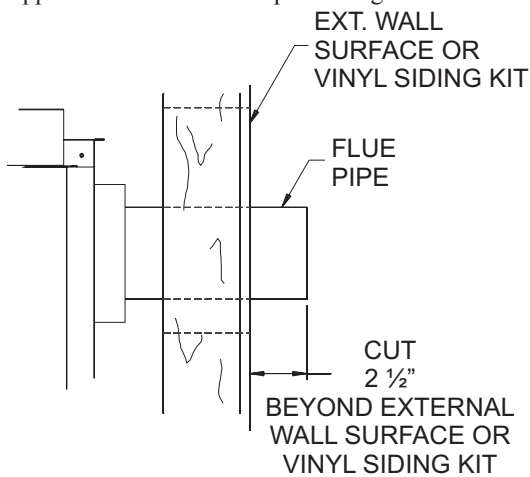
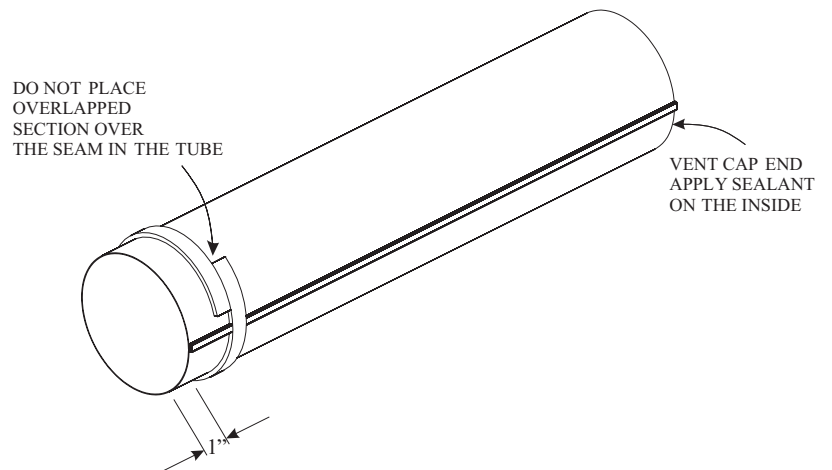

Figure 57
Figure 58
8. Attach the 4" (102mm) diameter flue outlet tube onto the rigid venting system or directly to fireplace. Ensure the 4" (102mm) diameter flue outlet tube is placed as far as possible onto the rigid venting system. Mark the 4" (102mm) diameter flue outlet tube 2 1/2" (64mm) beyond the vinyl siding kit or wall. **See Figure 57.** Remove the 4" (102mm) diameter flue outlet tube from rigid venting system. When installing directly to fireplace, tape gasket needs to be used.
10. From outside: Push the 6 5/8" (168mm) diameter inlet tube/mounting plate onto end of rigid venting system to correct position. Fasten the outside mounting plate to the vinyl siding kit or wall with (4) 10 x 1 1/2" screws. (Ensure upward slope).
11. From inside: Attach the inlet tube to the collar on the back of the fireplace (or the rigid venting system) using (3) self tapping screws.
12. Seal the 4" (102mm) diameter flue outlet tube. Follow instructions and diagram (**Figure 58**).
14. Fasten vent cap end using (3) 10 x 1/2" screws to mounting plate.
If the air inlet and flue outlet tubes are to be connected directly to the unit (no rigid venting system is being used), then the gasket provided must be used to seal the 4" (102mm) flue outlet tube. Peel the paper off the self-adhesive gasket and then wrap it around the end of the tube (if tube was cut, it is recommended to use cut end) as shown in Figure 58. Pull the gasket tight at all times while wrapping it around tube. The gasket ends should align, to form a complete seal. The overlapped section should NOT come in contact with the seam in the tube. Apply high temperature sealant to the opposite end of the tube (on the inside of the tube). The end with the gasket will attach to the back of the unit. Continue with Step 13.